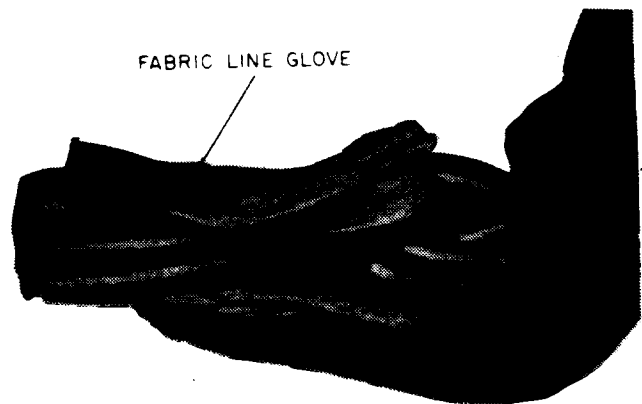
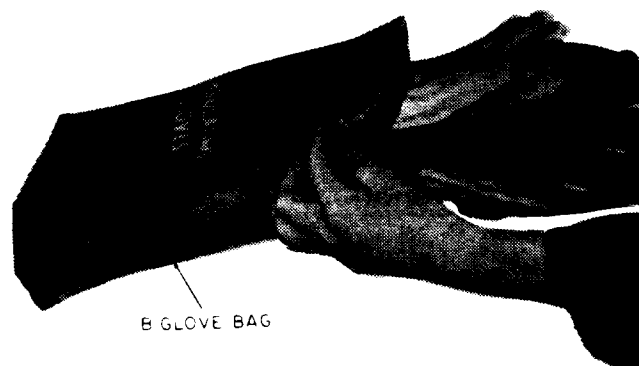

Figure 7 - Stacking Gloves
Figure 8 - Placing in Storage Bay
10.06 Grasp all gloves together at the cuff in one hand and slide the hand holding the cuffs into the bag (Fig 7). Insulating gloves must be stored with the fingers up to prevent them from collapsing or putting undue stress on the finger area (Fig. 8). When closing the zipper, keep one finger inside, guiding the zipper, to ensure that the insulating gloves are not pinched.